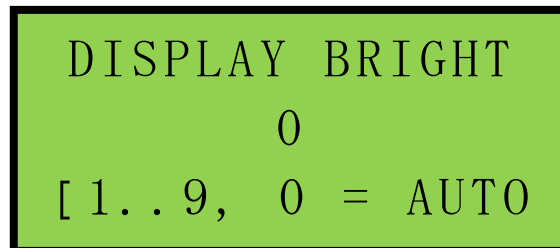

Fig.8.15 — Sign Selection Screen
- 7) Press the <Up Arrow> key to select the Display Bright option, then press the <Enter/Select> key to show Display bright: 0 information (see Fig. 8.15).